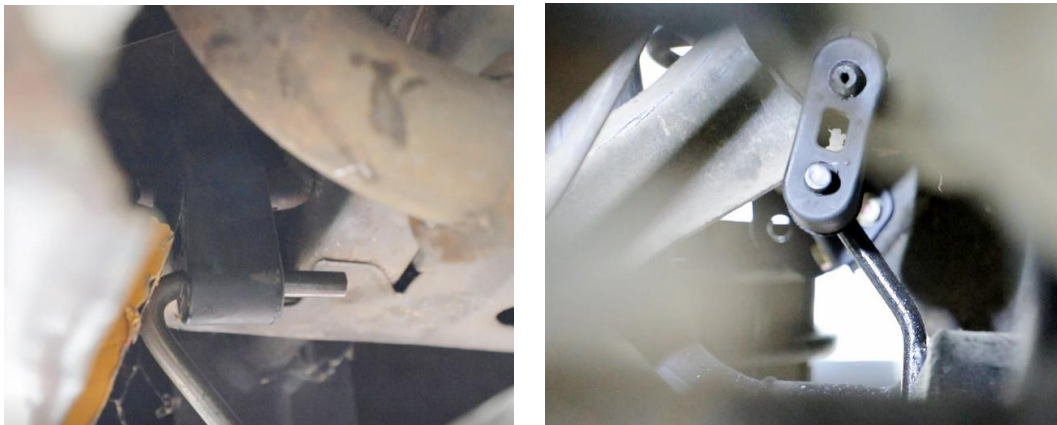

Figure 23 - Re-install Exhaust
27. Slide the exhaust isolators back onto the exhaust hangers (Figure 23). Re-install the exhaust at the flanges in front of the rear axle.